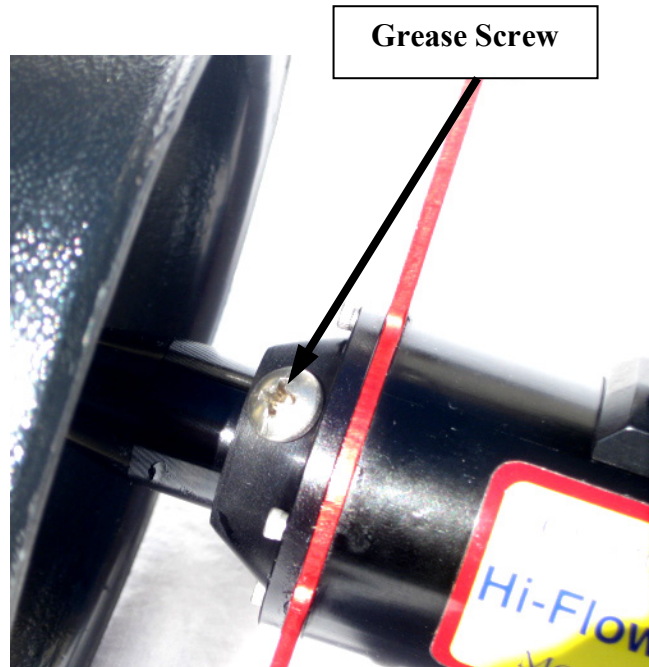

Figure 1 - Remove Grease Screw
1. Remove the grease screw as shown in figure 1 (400HFS-L shown as an example).